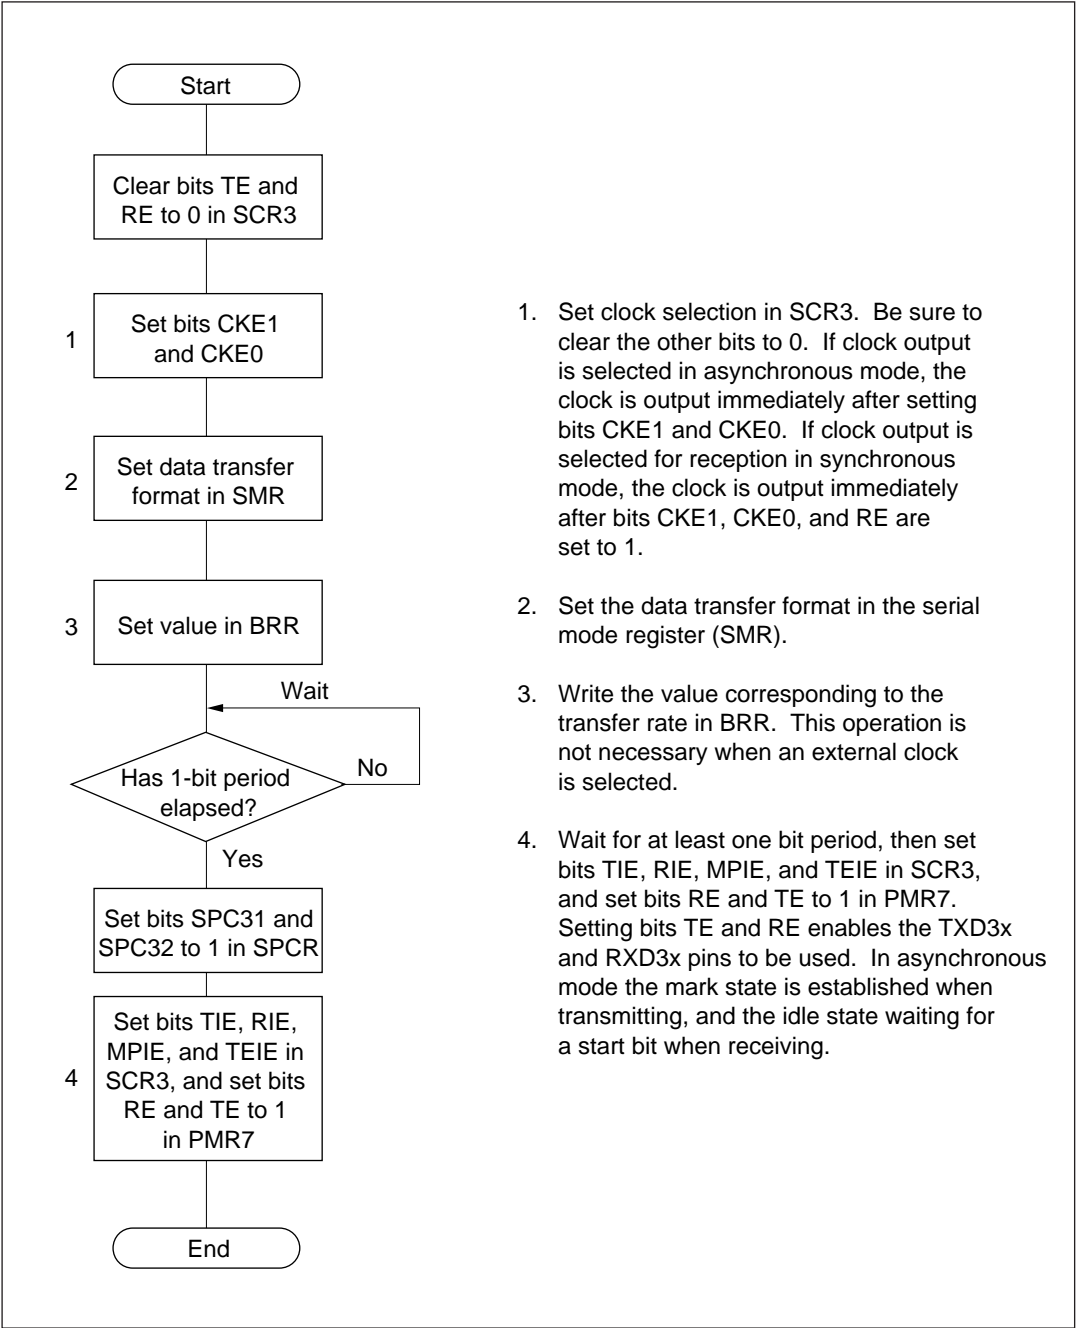

Figure 10-5 Example of SCI3 Initialization Flowchart
Figure 10-5 shows an example of a flowchart for initializing SCI3.
Data transfer on SCI3 first of all requires that SCI3 be initialized as described in 10.1.4 (3)(a). SCI3 initialization, and shown in figure 10-5.